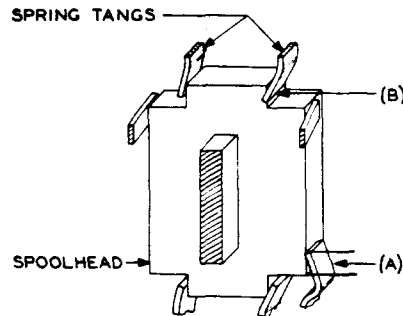

Fig. 6 - Spring Tang Position
(a) Fig. 6(A) - Spring tangs shall rest on the spoolhead so that the ends of the tangs are below or above the projection of the top or bottom edges, respectively, of the spoolhead
- (b) Fig. 6(B) - The tang shall not rub on the spoolhead when moved slightly in the direction of travel of the spring from its normal position of rest on the spoolhead.